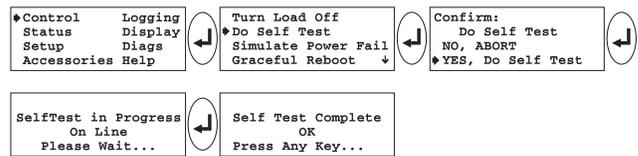

Fig 5-23 Initiate a Self Test Sequence
- 9. Perform a self test by following the screen sequence in figure 5-23.